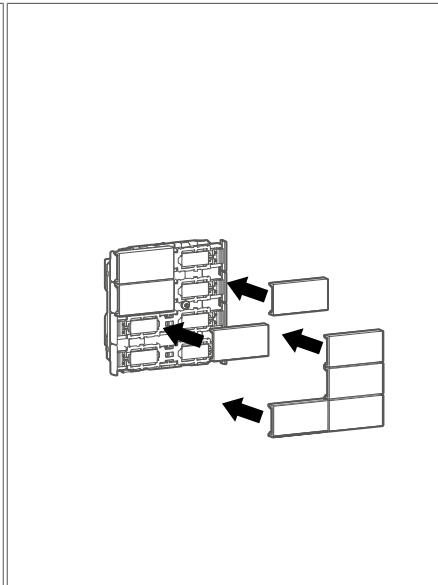

Fig. 12: Attaching the buttons
- Attach the buttons to the push-button module (Fig. 12).